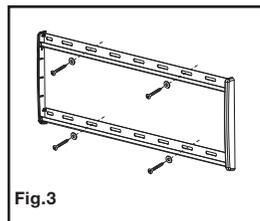

Fig.3
- Attach the wall plate to the wall using the M6.3 x 63 screws (A) and washers (B) provided (see Fig. 3). **Do not over-tighten these screws and do not release the mount until all screws are in place.** Ensure that the mount remains level after all screws are secured.